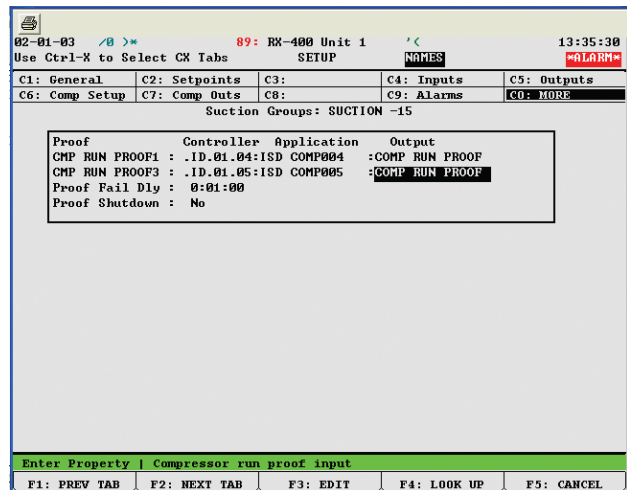

Figure 3.13 Suction Group Setup Screen (Proof Setup)
7. Press F2 (Next Tab) until the More tab is highlighted. Once the More tab has been selected, the display should look like figure 3.13.